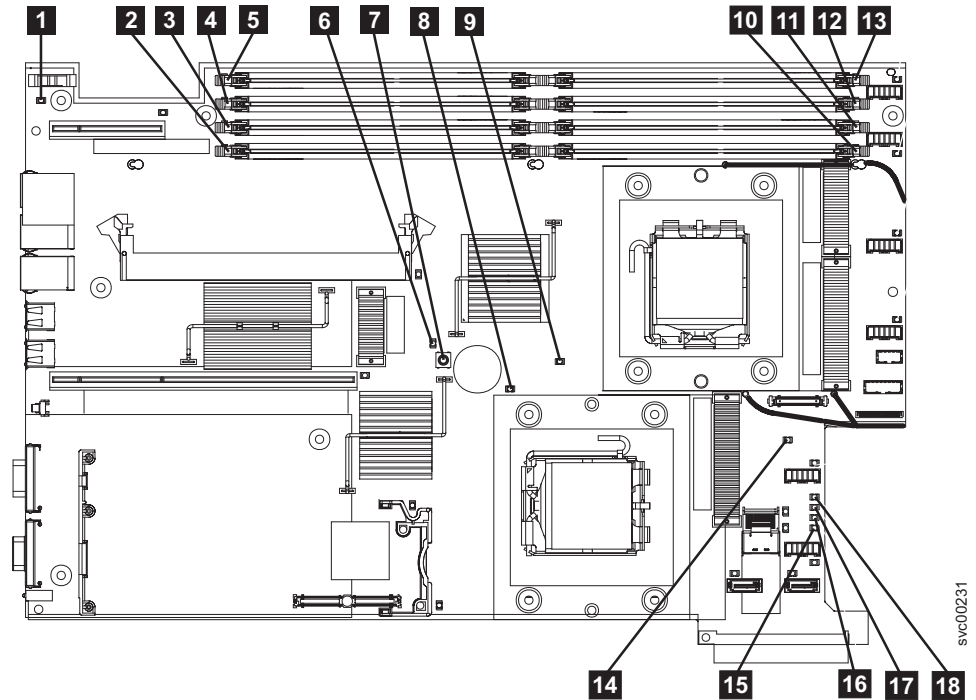

Figure 102. SAN Volume Controller 2145-8G4 system board LEDs
**YES** See Table 59 on page 418 and perform the action specified for the specific light path diagnostics LEDs. Then go to step 3 on page 419. Some actions will require that you observe the state of LEDs on the system board. Figure 102 on page 417 shows the location of the system board LEDs. The fan LEDs are located adjacent to each FAN. To view the LEDs you will need to do the following:
d. Press the light path diagnostics button ( **7** in Figure 102).